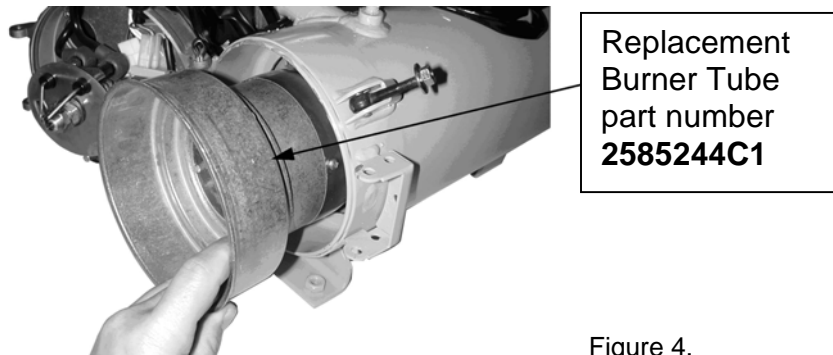

Figure 4.
6. The burner tube can now be carefully pulled out (see figure 4). If burner tube fit is very tight, use two screwdrivers to gently pry it evenly away from the heat exchanger. **Destroy the burner tube NOW so that it cannot be accidentally re-used (hit aluminum section of tube with a hammer - once it is damaged, the tube is no longer useable).** Do a visual check of the heat exchanger for damages. If necessary, remove carbon deposits with a steel brush. Insert the new burner tube into the heat exchanger until it is fully seated. No further adjustment is necessary.